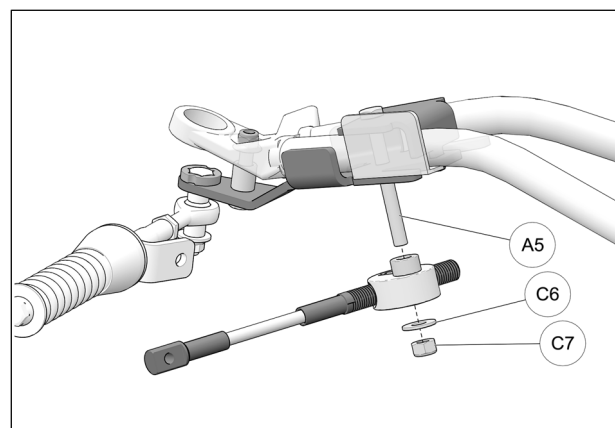

Fig. 23
14. Slip steering limiter cable assembly over bolt (A5) and use washer (C6) and nut (C7) to secure assembly to anchor bracket. Tighten nut to 50 N•m [37 lb•ft]. Refer to Fig. 23